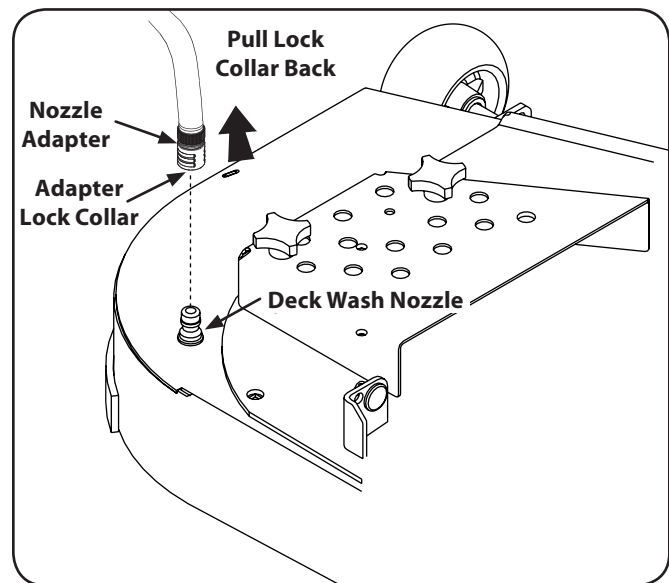

Figure 6-3
3. Pull back the lock collar of the nozzle adapter and push the adapter onto one of the deck wash nozzles at either end of the mower deck. Release the lock collar to lock the adapter on the nozzle. See Fig. 6-3.